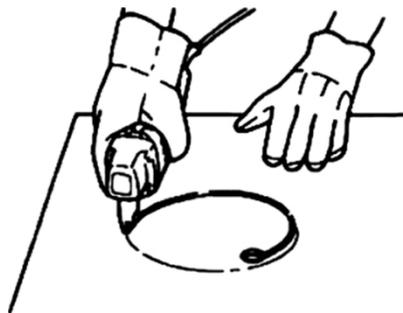

Fig 6
1. Switch ON and OFF(Fig6)
cutouts (Fig6)